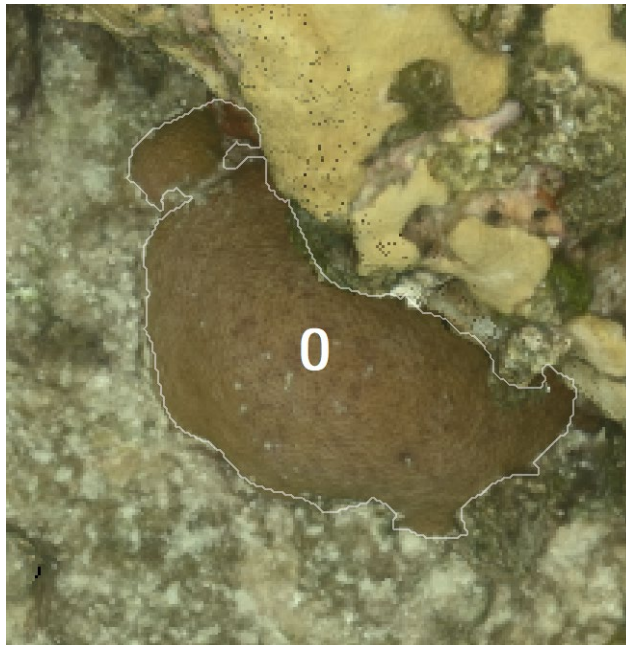

Figure 132. Example of completed segmentation with the white border and ID number.
6. The segmented coral colony will be assigned an ID number with a white perimeter (Figure 132).